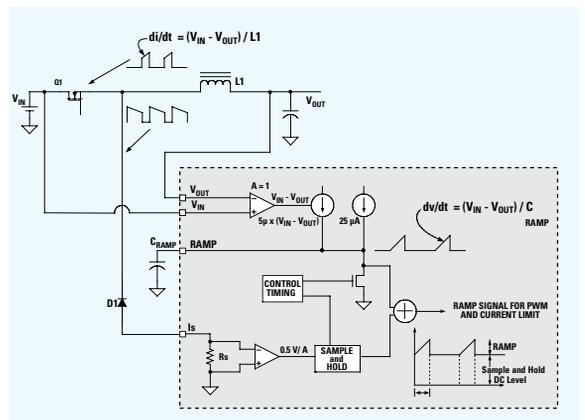

Figure 3. Emulated Current Mode Control Ramp Generator
*Figure 3* presents the block diagram of the LM25576, one of six new integrated buck regulators that implement the emulated current mode control scheme described above. The top portion